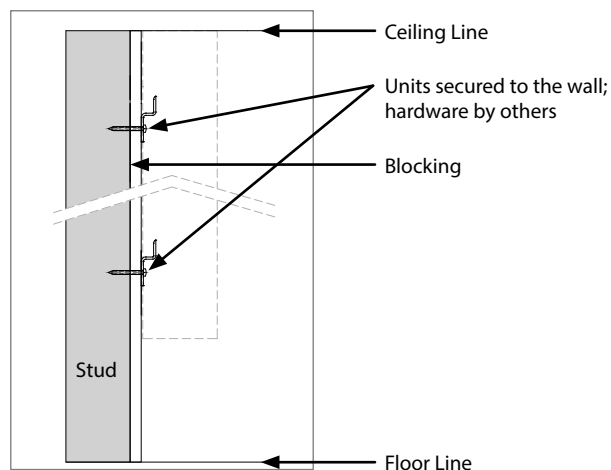

Figure 2: Setup
3. Mount the brackets on the wall using hardware compliant to local building codes, as seen in **Figure 2**.